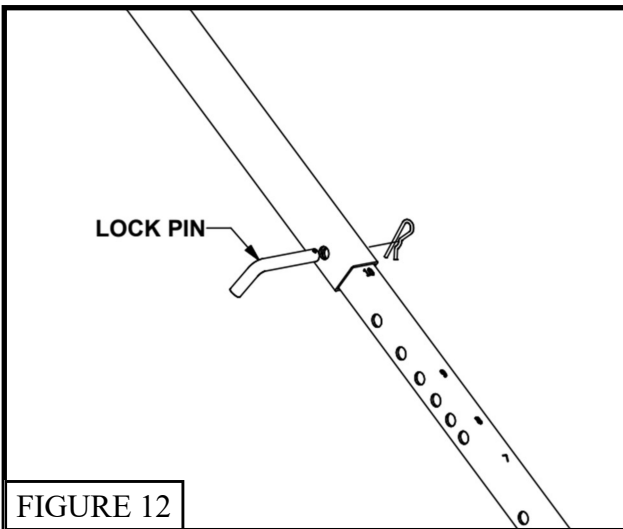

FIGURE 12
20. Install *Padding Brackets* (Q) on the *Front and Side Pads* (N) with $1/4"$ -20 *Flat Head Screws* (O). Install *Front and Side Pads* (N) to the *Portable Base* (A) by sliding the *Padding Brackets* (Q) over the base frame. Tighten the bracket set screws once padding is properly positioned. See Figure 12.
21. To adjust goal playing height remove rim height lock pin and raise or lower to desired height and reinstall rim height lock pin. The distance from the front of the backboard to the front of the base decreases as the rim is lowered. See Figure 12.